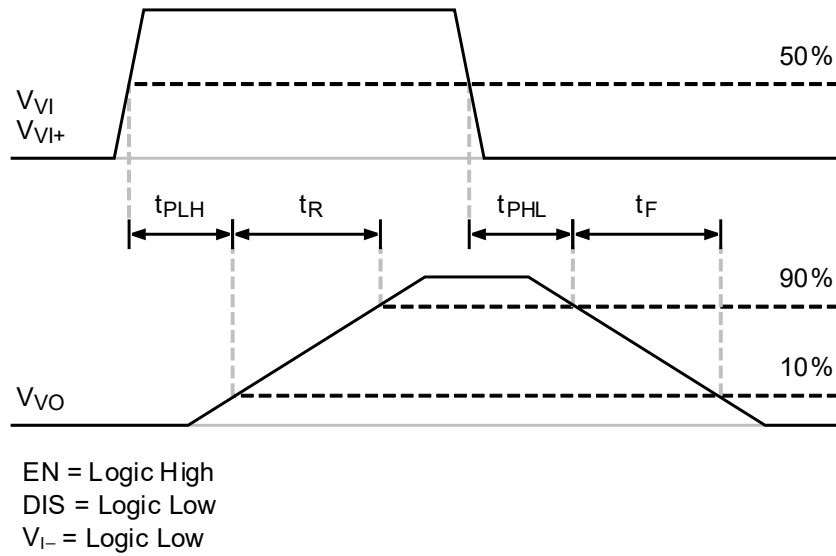

Figure 21. Control Input Timing Measurements
2. See Figure 21, “Control Input Timing Measurements,” on page 28 for details.